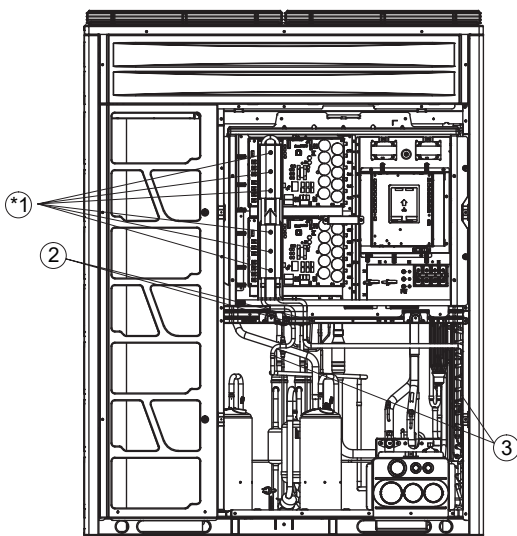
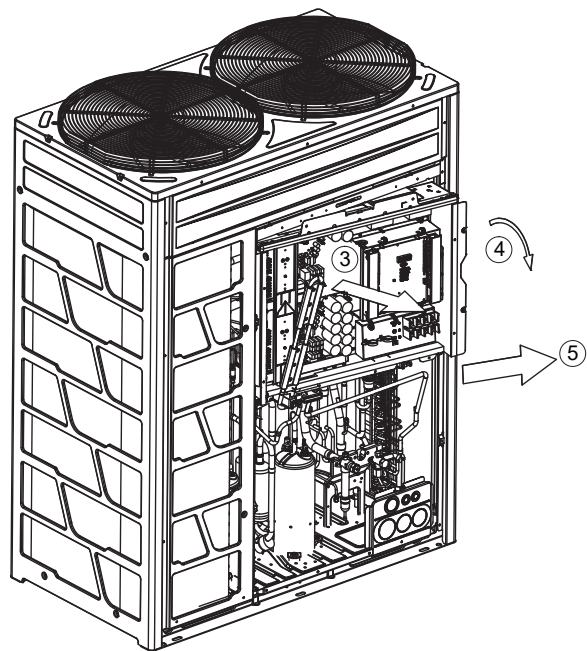

Fig.1
Fig.2
- (1) Removing Service Cover
- (a) Remove four (4) screws fixing in the service cover.
- (2) Removing Front Cover
- (a) Front cover shall be removed after removing the service cover. Remove seven (7) screws fixing in the front cover.
- (b) Hold the upper side of the front cover and lift it obliquely upward. Do not remove the screw in Fig. 1.
- (3) Removing Piping Cover
- Piping cover shall be removed after removing the front cover. Remove the screw in Fig. 1 and lift the piping cover obliquely upward.
(1) Attaching Piping Cover
- (a) Put the piping cover 45° obliquely (Refer to Fig.1), then insert the hook of the piping cover into the edge of the floor cover. (Refer to Fig. 1)
- (b) Vertical the piping cover and fix the front cover with the screw in Fig. 2.
- (1) Remove the service cover and front cover according to the item 2.1 "Removing Front Service Cover".
- (2) Remove the electrical box cover according to the item 2.4 "Removing Electrical Box Cover".
- (3) Remove the M5 bolts (3 for single fan, 6 for dual fan) in position ① (Refer to Fig. 1);
- (4) Remove the two M5 screws in position ②, (Refer to Fig. 1), and remove the rubber block and fixed sheet metal;
- (5) Remove the screws around the electrical box.
- (6) Pull the refrigerant cooling module 15~20 degrees forward (Refer to Fig. 2);
- (7) Turn the electrical box clockwise until the right side of the box is completely outside the machine (Refer to Fig. 2);
- (8) Move the electrical box to the right until the electrical box is completely outside the machine (Refer to Fig. 2);
- (9) After repair, reset the machine in reverse order, and the refrigerant cooling module should be in close contact with inverter to facilitate heat transfer when reinstalled.
Lift the E-Box stay up. Remove the the hooks of E-Box stay from the holes on the right and left sides (Refer to Fig. 2).